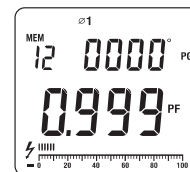

Figure 20
4. When measuring 3 phase 4 wires: (see figure 20, 21, 22)
- Press **SELECT** to choose the first phase $\varnothing 1$, see figure 20.